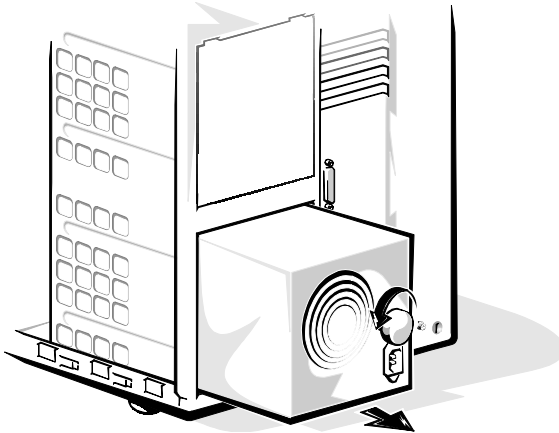

Figure 7-7. Removing the Power Supply
- Slide the power supply out of the chassis (see Figure 7-7).